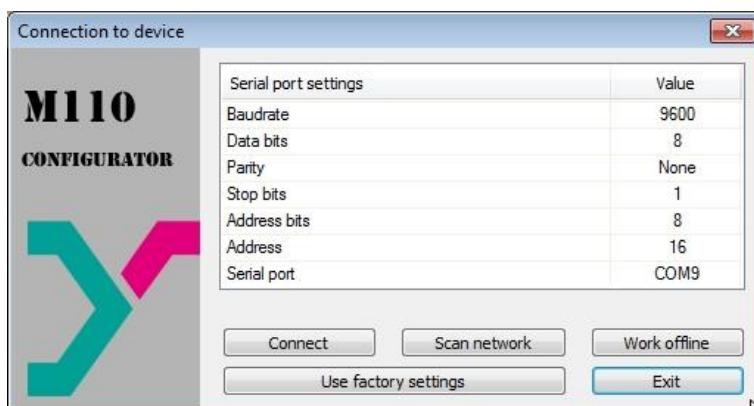

Fig. 7.1 “Connection to device” dialog window
- click the “*Use factory settings*” key in the “*Connection to device*” dialog window or enter the values from the Table 7.1 (see Fig. 7.1)